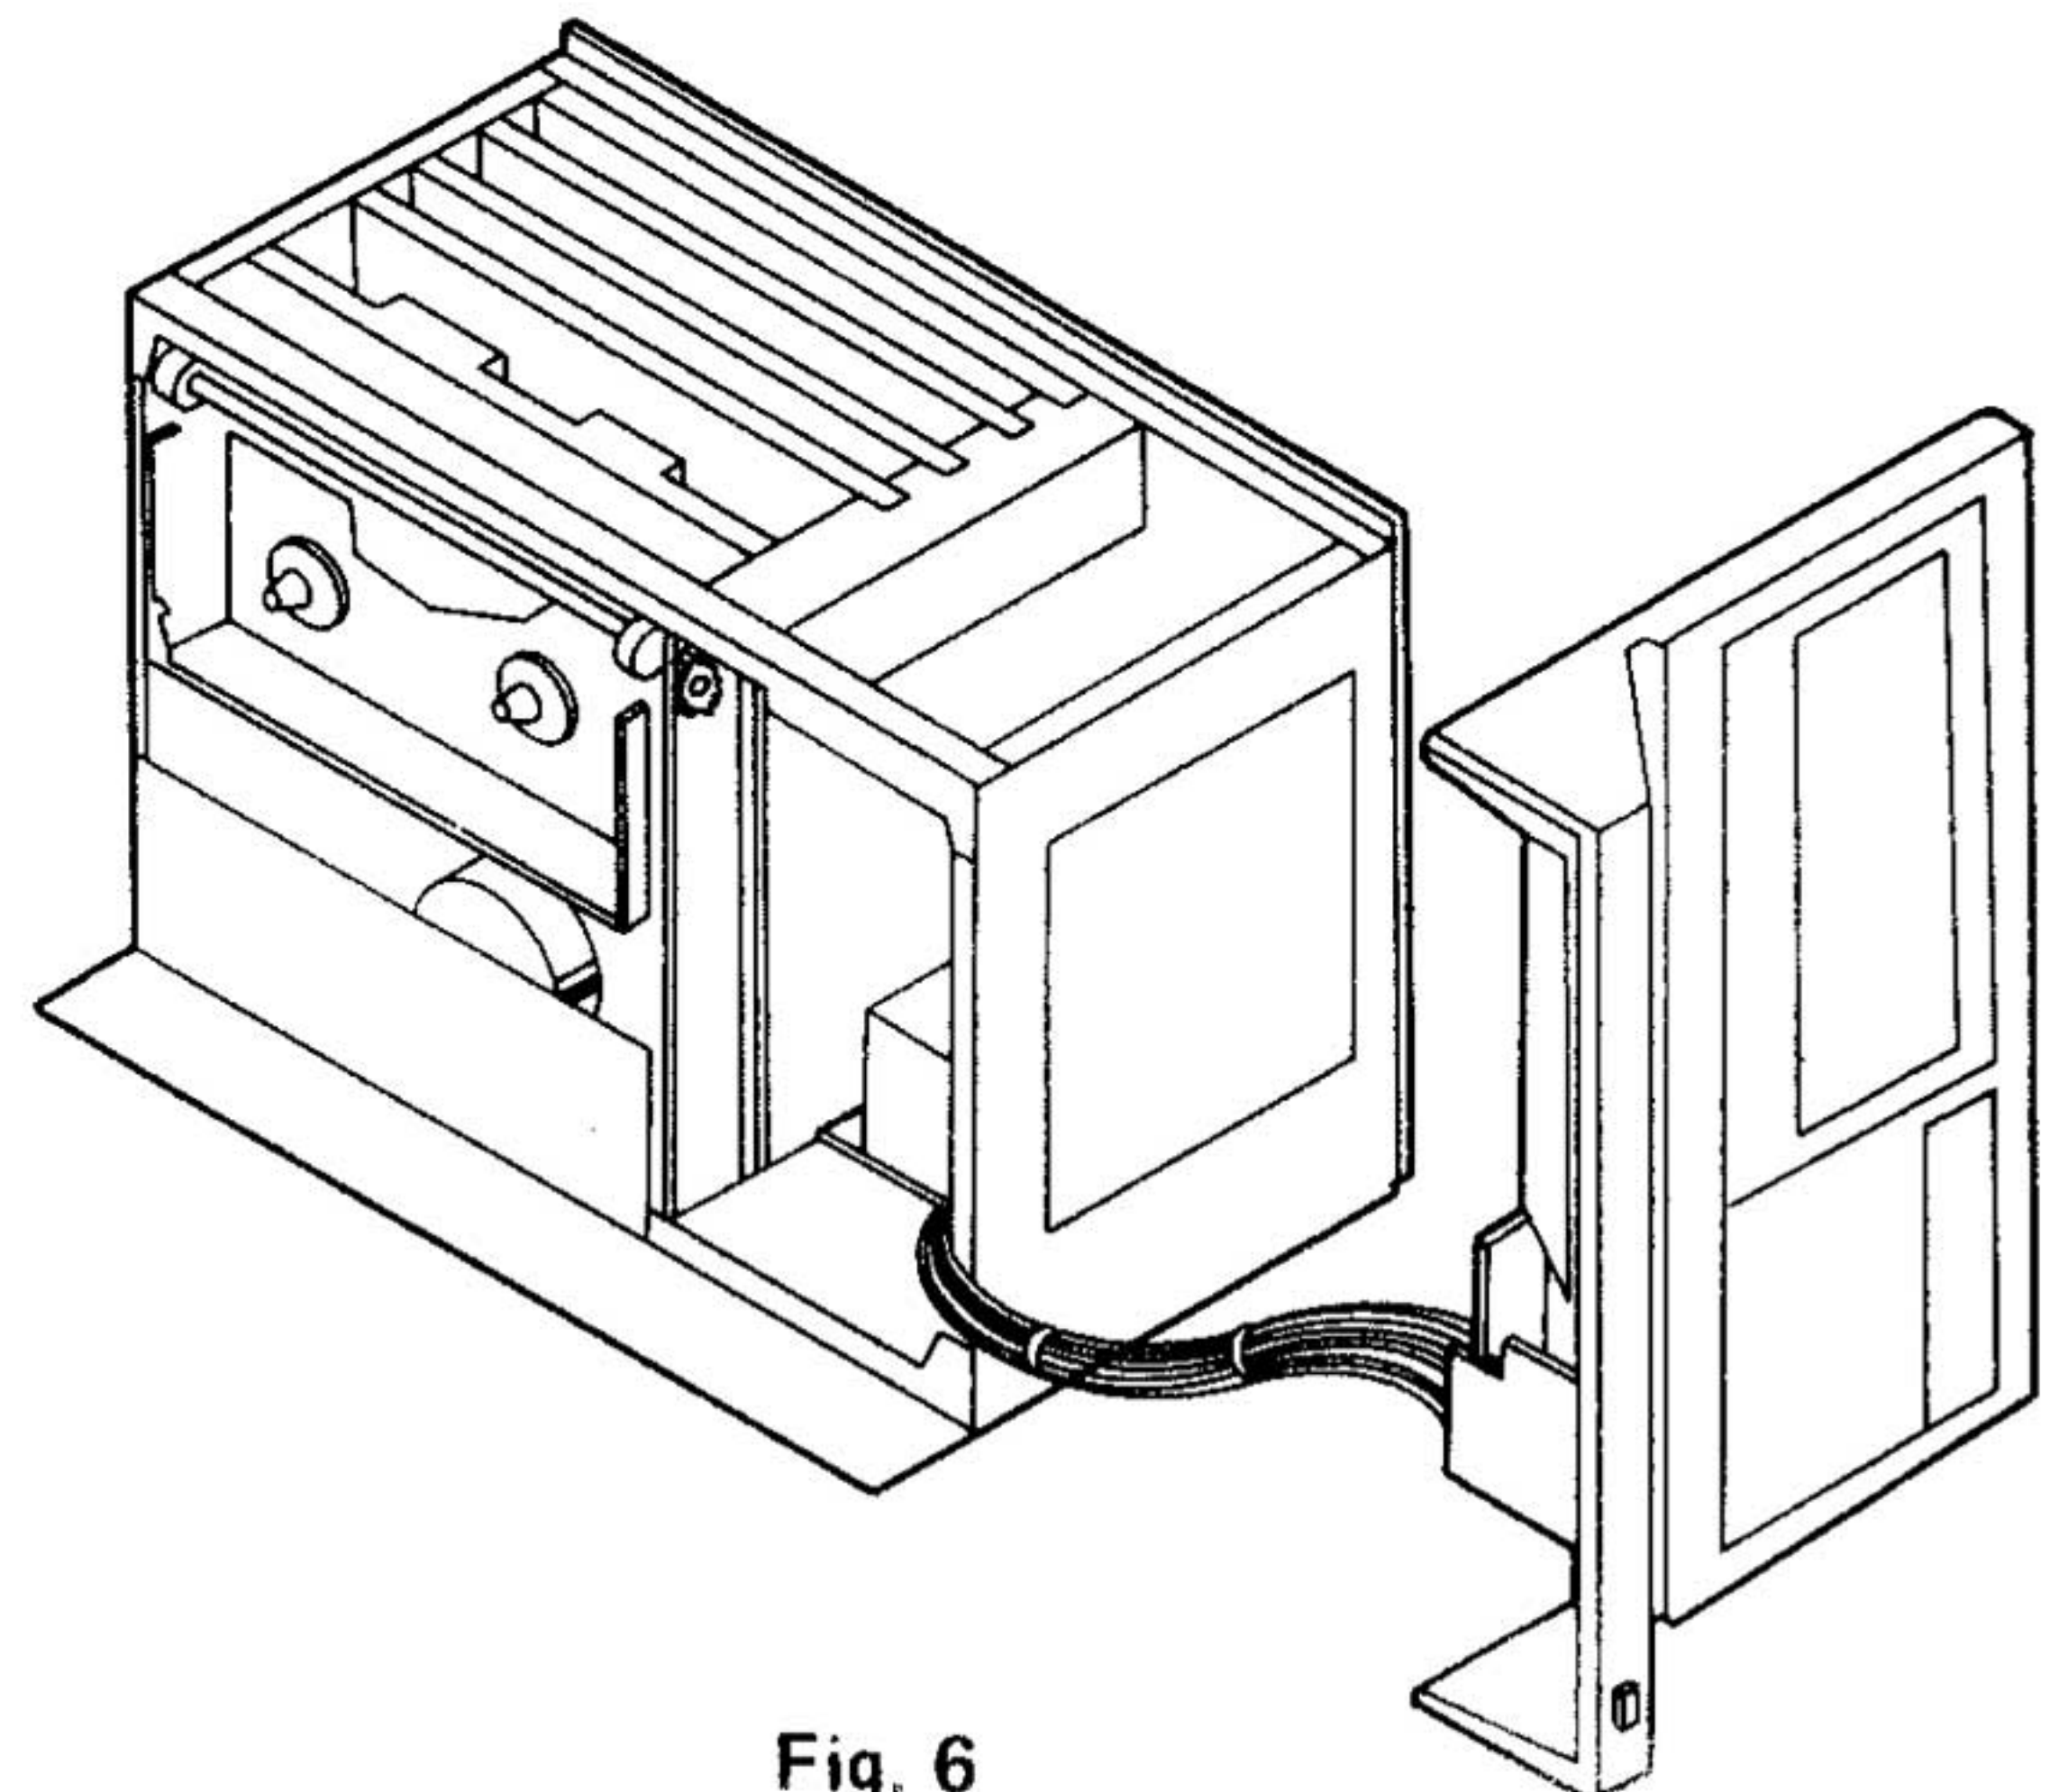

Fig. 6
4. Check the front panel as in Fig. 6.